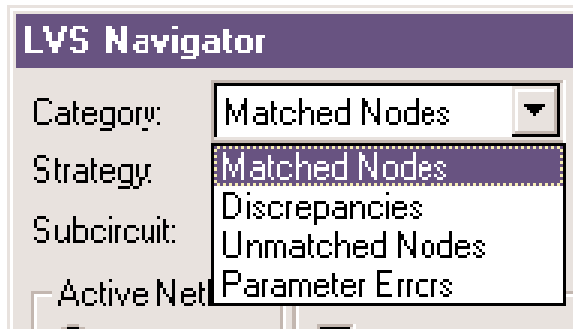

Figure 6. Choice of Report Categories in LVS Cross-View Navigator
**REPORT CATEGORY:** The set of design elements to be browsed during particular navigation session is defined by the nature of the report under consideration. LVS Cross-View Navigator supports (Figure 6) four categories of reports for browsing control: